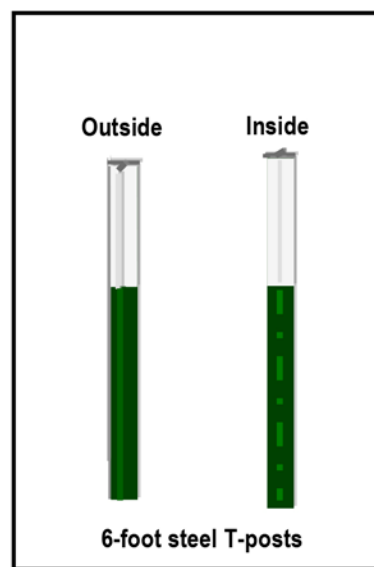

Figure 1. T-posts for a trap door.
1. Set the trap door in place and drive a T-post firmly into the ground on each side of the door. Be sure the studded sides of the T-posts are facing the inside of the trap (**Figure 1**) and the posts fit snug against each side of the trap door. Fasten the door to the T-posts using heavy-gauge wire.